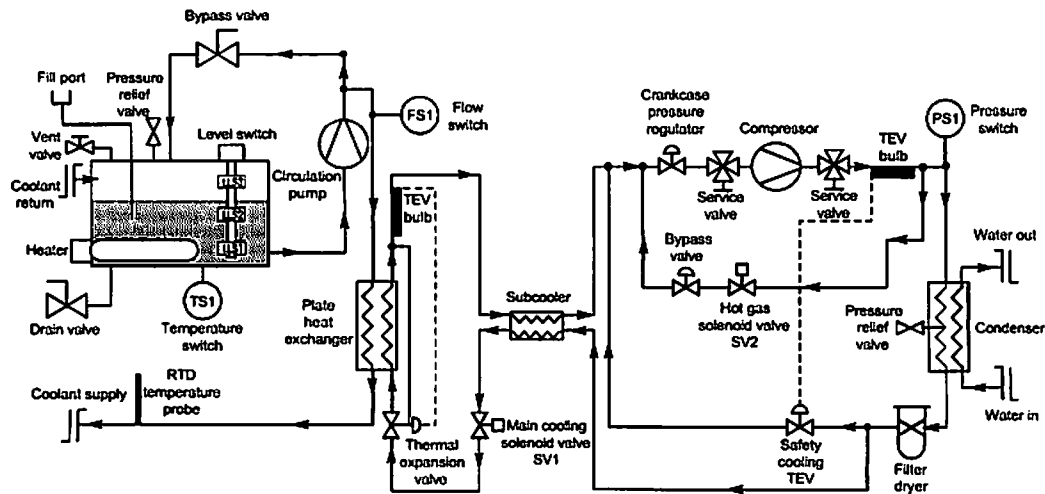

Figure 3- Refrigeration and coolant circuits
* See Figure 3 on page 9.
(see figure 3 above)